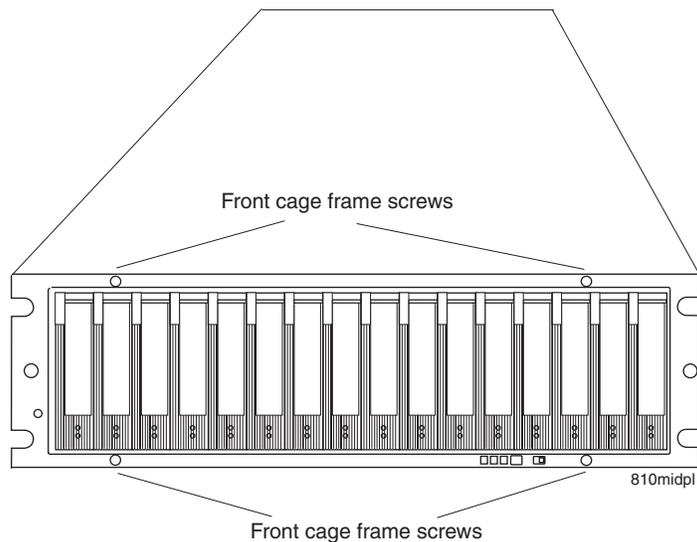

Figure 94. Replacing a midplane
9. Use a #1 Phillips screwdriver to loosen the four front cage frame screws on the midplane, as shown in Figure 94.